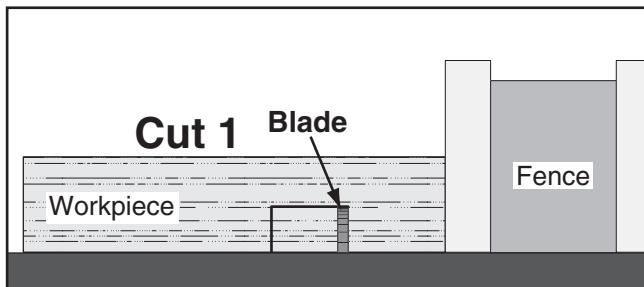

Figure 65. First cut for a single-blade dado.
6. Align the blade to cut one of the dado sides, as shown in Figure 65.